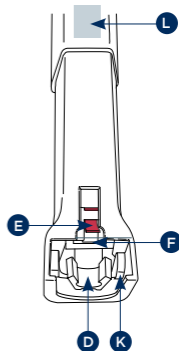

Figure 7
3. Make a note of the position and orientation of the spring **K** (refer to Figure 7 on page 14).
The DISTRITIP retaining collar is fixed to a steel shaft to form the piston retaining assembly. The piston retaining assembly, which connects to the filling knob, must be replaced as a unit. To replace the retaining collar **D** (refer to Figure 7 on page 14), perform the following steps.
3. Press lightly on the white locking tab **F** (refer to Figure 7 on page 14) with a screwdriver.
You cannot remove the red flag **E** (refer to Figure 7 on page 14) until you have separated the filling knob from the piston retaining assembly. In fact, The act of separating these two components will free the flag.
To replace the red flag, the piston retaining assembly and filling knob should be reconnected first. Then, with reference to the Figure 7 on page 14, hold the flag with end **A** between the thumb and index finger of one hand. With end **B** pointing downwards, insert it into the access slot. Next, push end **A** as far as it will go into the slot using a small screwdriver.